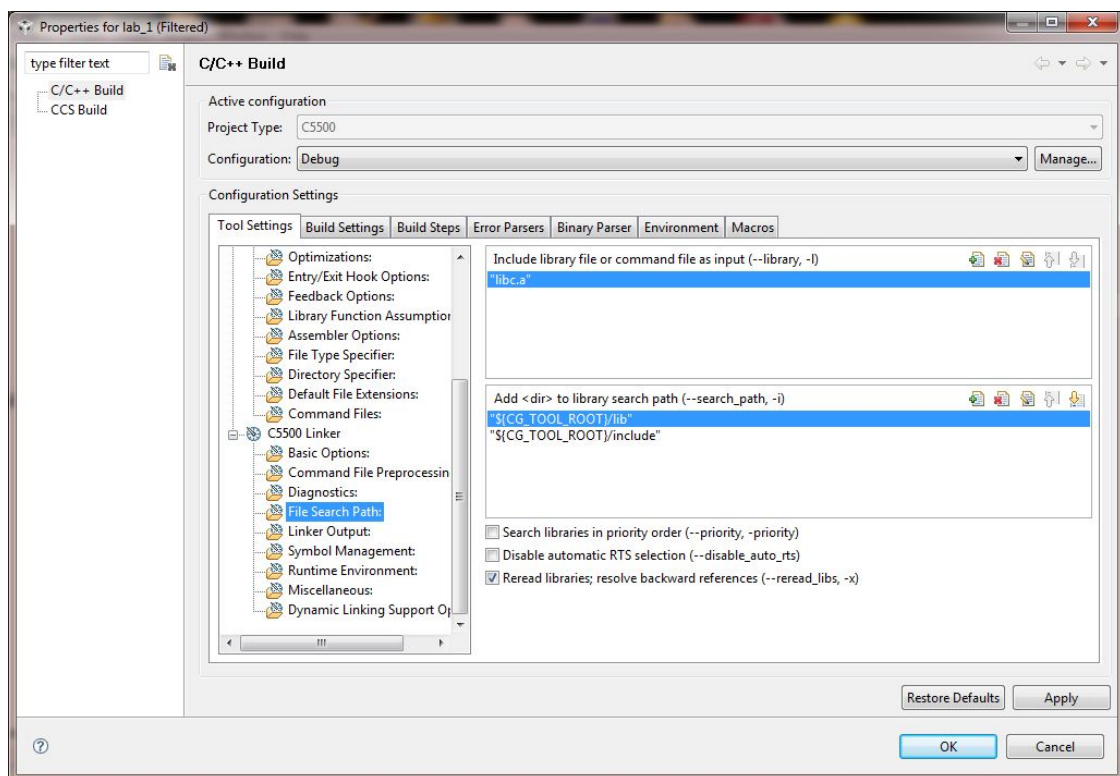

Figure 5: CCS interface demonstration showing linker options for a project.
- Now go to **C5500 linkers** and select **File search path**. From the section named, **Include library file or command file as input(--library, -l)** (Refer to figure 5), remove any lib files already present (For ex. `libc.a` as shown in the figure). Then, Include the following two library files: `C:/Program Files (x86)/Texas Instruments/ccsv4/tools/compiler/c5500/lib/rts55x.lib` and `C:/Program Files (x86)/Texas Instruments/ccsv4/emulation/boards/usbstk5515_v1/lib/usbstk5515bsl.lib`.